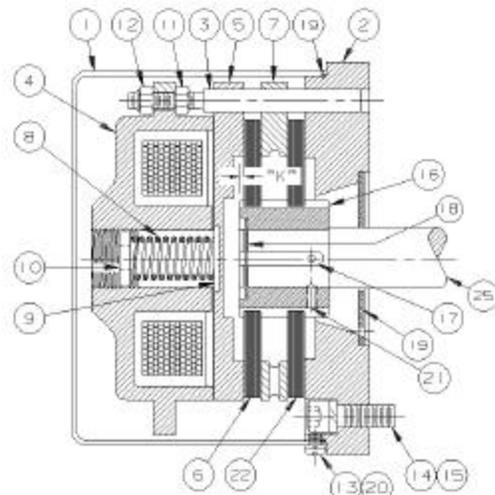

FIGURE 1. BRAKE ASSEMBLY
Refer to FIGURE 1 for a mechanical picture of the brake. Rotating mechanical power to the brake is provided by a drive shaft (25), that drives both brake lining discs (6) & (22), through the brake spline hub (16). Braking is achieved by spring (8) pressure being applied to the armature plate (5) that places equal pressure on both brake lining discs (6) & (22). Rotating mechanical power is then absorbed and converted to heat and dissipated through the armature plate (5), brake plate (7) and mounting plate (2). When the magnet shunt wound coil is electrically energized, it pulls the armature plate (5) towards the magnet pot (4) releasing the spring (8) pressure on both brake lining discs (6) & (22), which removes braking pressure and allows the drive shaft (25) to rotate freely.
3. Spline hub (16) and drive shaft (25) must not extend 0.062 inches (dimension "K") beyond the outer brake lining disc (6), otherwise, the brake will not operate. See FIGURE 1, page 1.
4. Spline hub (16) must be securely fastened to the drive shaft (25). Locating dimension "K" must be held by one of the following three methods:
- a. PREFERABLE METHOD - Provide a Class RC2\* sliding fit between the spline hub (16) and the drive shaft (25). Hub shall be keyed (17) (minimum AISI 1018 CDS keystack) to the drive shaft (25). A retaining ring (18) shall be installed on the drive shaft (25) to prevent the key (17) and spline hub (16) from backing off the shaft. A shaft (25) shoulder should be provided to prevent hub (16) movement in the opposite direction.
- b. ACCEPTABLE METHOD - Provide a Class LN3\* location interference fit between the spline hub (16) and the drive shaft (25). Using a 3/16 inch diameter drill, indent key (17) and shaft (25) through both set screw holes in hub (16). Then firmly install both set screws (21) to lock the hub (16) on the shaft (25).